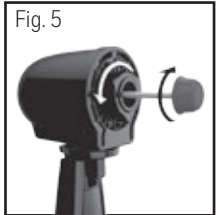

Fig. 5
1. Unscrew the blade nut clockwise and the plastic nut counterclockwise and set aside. (Fig. 5)